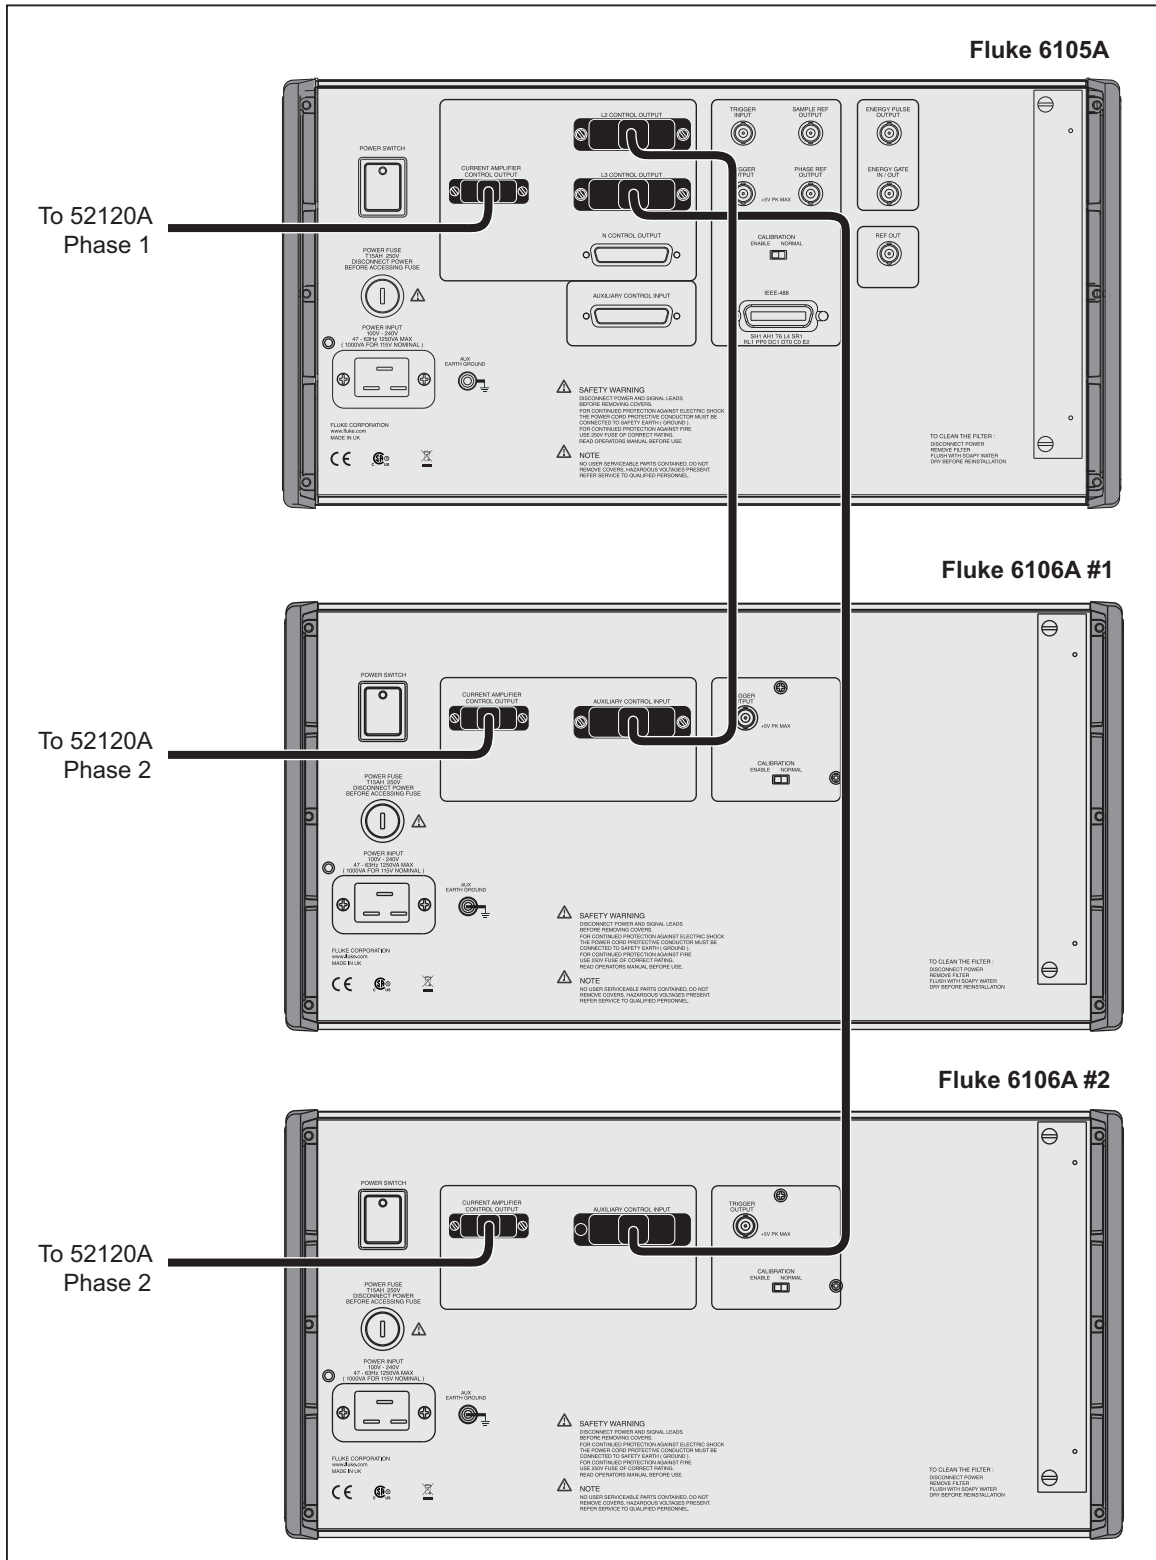

Figure 2-9. 6105A to 6106A Connections
2. Connect a second control cable between the L3 Control Output connector of the 6105A and the Auxiliary Control Input connector of a second 6106A. See Figure 2-9.